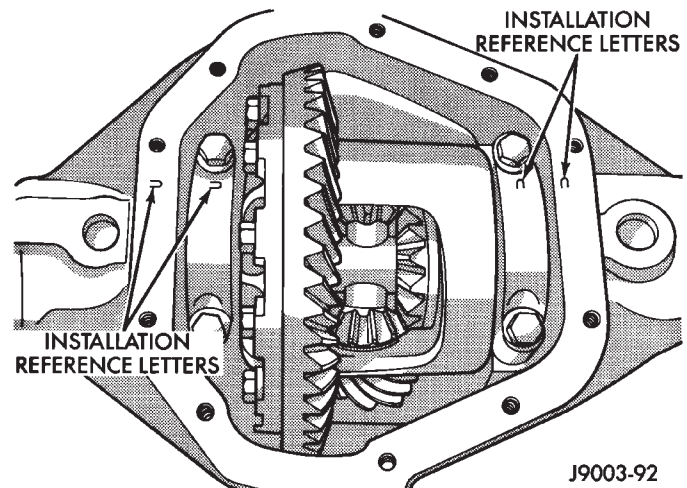

Fig. 22 Differential Bearing Cap Reference Letters
(4) Remove the dial indicator.
(5) Install differential case in the housing. Ensure that the differential bearing cups remain in position on the differential bearings. Tap the differential case to ensure the bearings cups are fully seated in the housing.
(6) Install the bearing caps at their original locations (Fig. 22).
(7) Loosely install differential bearing cap bolts.
(8) Remove axle housing spreader.
(9) Tighten the bearing cap bolts to 61 N·m (45 ft. lbs.) torque.